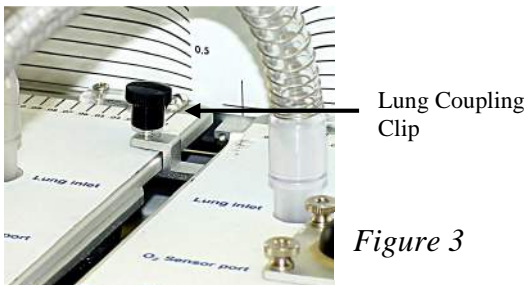

Figure 3
7. Attach the lung coupling clip to the left lung and under the right lung. This will allow the left lung to drive the right lung when a breath is delivered from the *Breath Simulation Module*. (Figure 3)